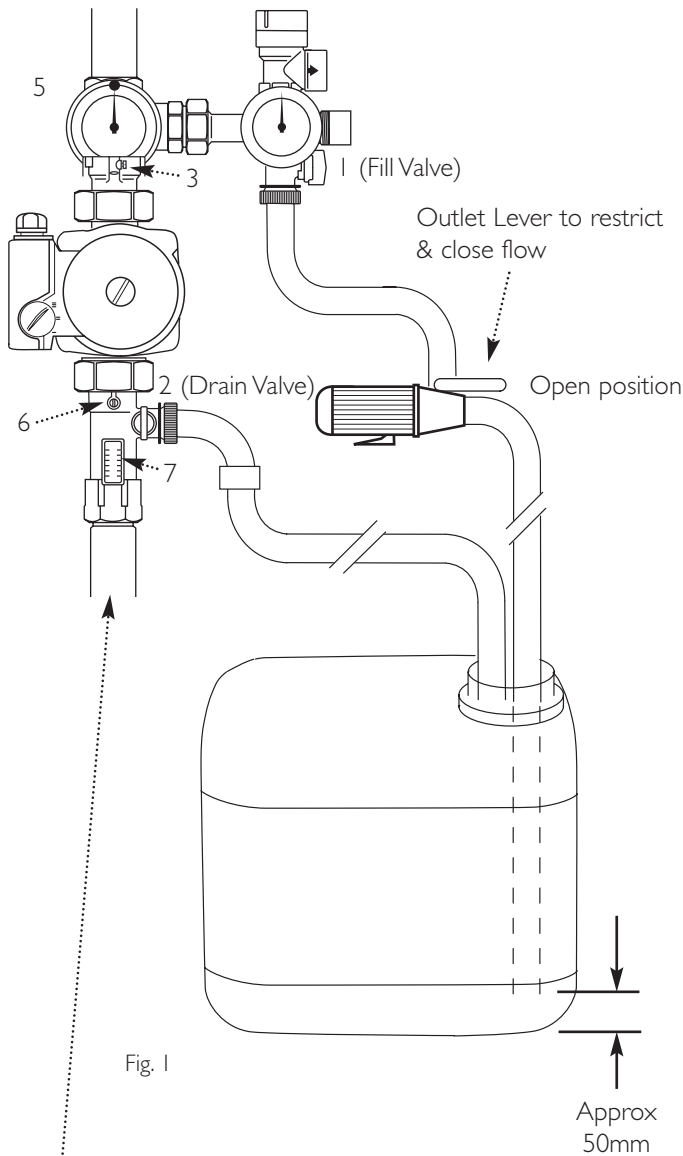
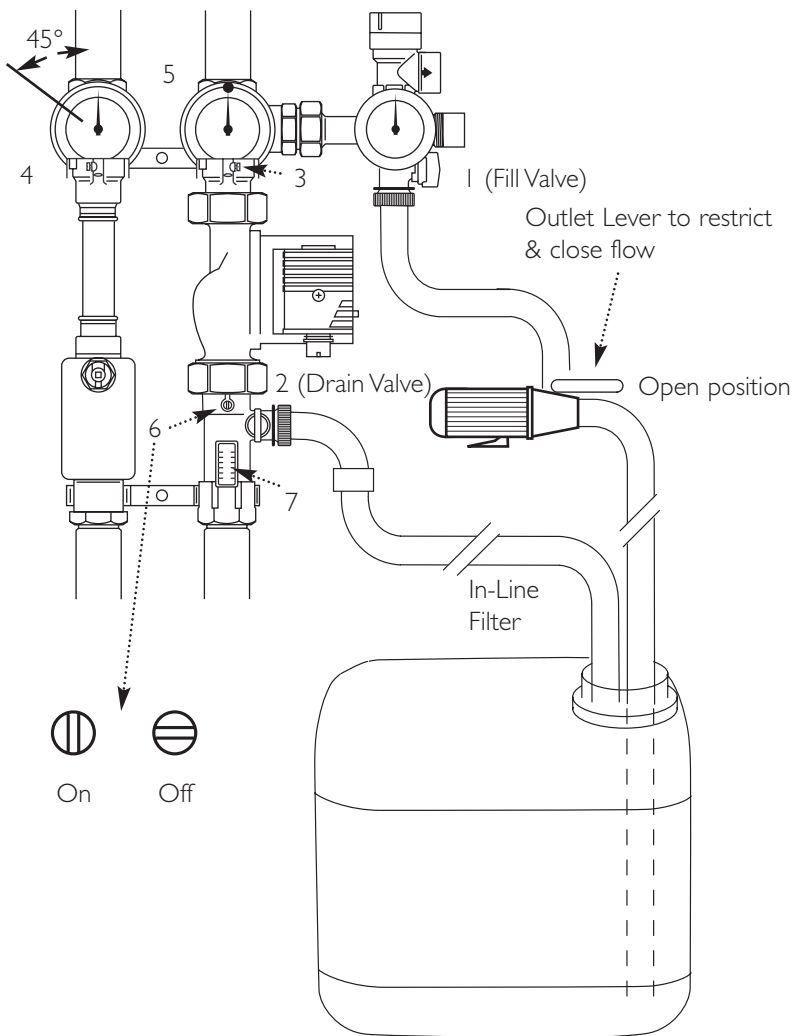

Fig. 1
Fig. 2
2. Connect the filling pump as shown to the connection on the safety group of the East /West pump station (Fig. 1 item 1).
Electric Filling Pump - Place the suction tube into the transfer fluid container with the hose approximately 50mm from the bottom of the container; connect the drain hose to the drain valve connection on the flow meter (Fig. 1 item 2). Place the drain tube into the transfer fluid container. Check at this stage that both valves are closed, the valves are closed when the isolation levers are in the horizontal plane.
3. Turn the combined isolation valve to 45° (Fig. 2 item 4).
6. Switch on the pump (Electric Filling Pump) and pressurise the pump prior to opening the fill valve. Open fully the east west pump station fill valve (Fig. 1 item 1), and open the drain valve (Fig. 1 item 2).
8. The transfer fluid level should be monitored during the fill procedure. If the fluid level gets near to the bottom of the suction hose, approximately 1 litre is left in the container, it will be necessary to stop the fill procedure, close valves 1 and 2 (Fig. 1), switch off the pump and replenish the transfer fluid before repeating from step 1 again. (If the level gets below this, the pump is liable to damage and air will be introduced into the system.)
10. Once the east west leg of the system is filled and a pressure of 2 bar achieved, (Electrical Filling Pump - Close the valves (Fig. 1 items 1 & 2). Turn the combined isolation valve (Fig. 2 item 4) back from 45°. Switch off the pump, disconnect the pump hoses carefully releasing the pressure, and screw on the brass sealing caps securely. Check for leaks.
1. Connect the filling pump to the solar pump station with controller, on the fill and drain valve on the safety group (Fig. 2 item 1) and connect the drain hose to the fill and drain valve on the flow meter; (Fig. 2 item 2) and check that the valves are closed. Ensure the drain hose is installed as prescribed earlier:
2. Turn the left hand isolating valve (Fig. 2, item 4) to 45° anticlockwise and the flow meter adjusting screw (Fig. 2, item 6) to off.
3. Fully open the fill and drain valves on the safety group (Fig. 2, item 1 & 2)
4. Turn the slot of the adjusting screw (Fig. 2, item 3) in the return so the slot is vertical to open the non return valve
7. The transfer fluid level should be monitored during the fill procedure. If the fluid level gets near the bottom of the suction hose, approximately 1 litre is left in the container; it will be necessary to stop the fill procedure, close items 1 and 2 (Fig. 2), switch off the pump and replenish the transfer fluid before repeating from step 1 again. (If the level gets below this, the pump is liable to damage and air will be introduced into the system.)
8. During the fill process air bubbles may be seen behind the glass window of the flow meter (Fig. 2 item 7), the air should gradually reduce until there is a clear flow of fluid. The fill process should be run for several minutes to ensure the system is flushed of debris and all air is removed. The debris should be caught within the inline filter of the drain tube. Debris accumulation can be cleaned out from the filter at a later date on the Multifit Electric Pump.
9. Continue filling at the fill valve on the safety group (Fig. 2, item 1) until the system pressure reaches 2 bar.
10. Once the master pump station leg of the system is filled and a pressure of 2 bar achieved, close the drain valve (Fig. 2 item 2), switch off the pump, close the valves (Fig. 2 items 1 & 2). Check for leaks.
11. Turn the left hand isolating valve (Fig. 2, item 4) back 45° clockwise until the dot on the bezel is back at 12 o'clock
12. Turn the non return back to open (Fig. 2, item 3)(12 o'clock).
13. Turn the flow meter adjusting screw (Fig. 2, item 6) until it is fully open on both pump stations (12 o'clock).